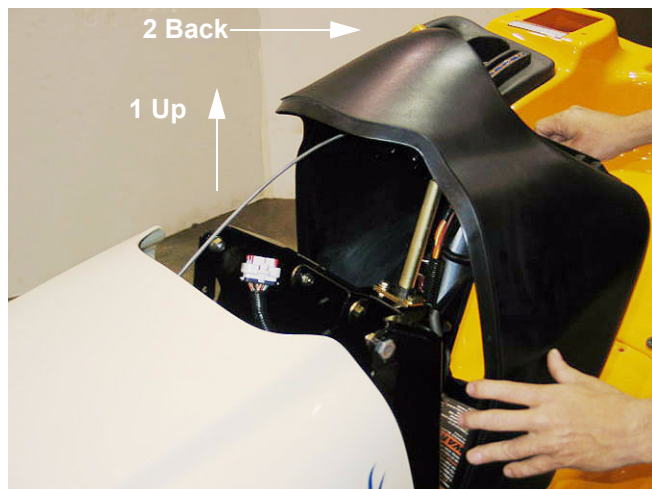

Figure 1.20
- 1.20. Carefully lift the dash panel and remove it from the tractor. Confirm that the wiring harness and control cables do not snag as they pull out with the dash panel. See Figure 1.20.